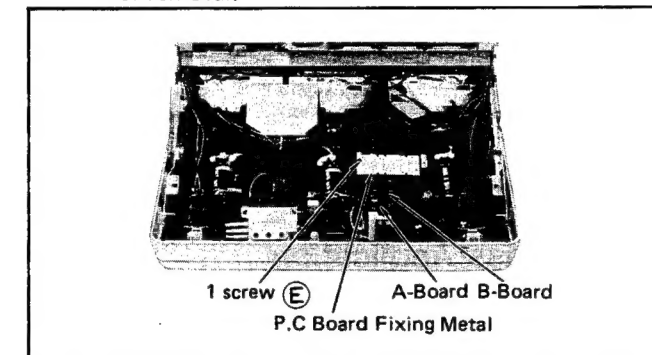

Fig. 6
- Remove a 1 screw (E) in fig. 6, and remove the P.C-Board fixing metal.